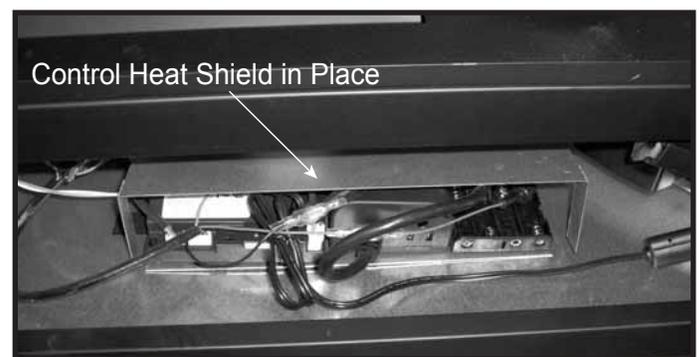

Figure 15.17 Control Heat Shield - Installed
- Verify that the control plate is installed and legs are on bottom pan of appliance. See Figure 15.17.